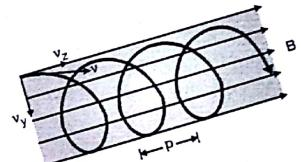

Fig. 7.4.1 : Electrostatic focussing
- If an electron enters a magnetic field at an angle  $\theta$  to its initial velocity, the particle describes a helical path in the field. The axis of helix will be the direction of magnetic field as shown in Fig. 7.4.1.